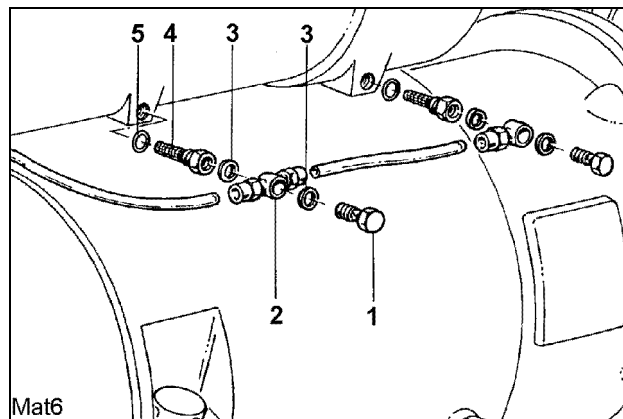

Fig. 2
- Loosen the hollow screws 1 (Fig. 2).